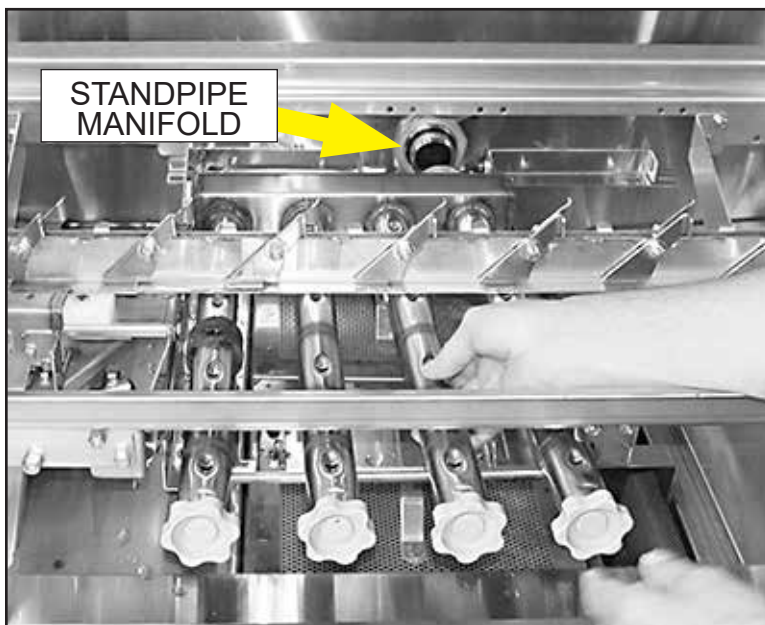

Fig. 7
- 2** Slide the lower spray arm on the tracks until it seats in the standpipe manifold. Push the assembly down to lock in place, Fig. 7.